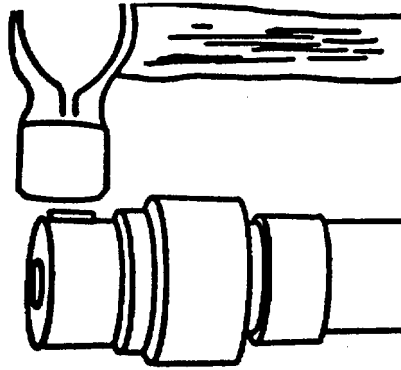

FIGURE 4-31. Installing Woodruff Key.
- b. Remove all burrs from camshaft (5). Smooth any rough surfaces caused by removing the gear. Replace camshaft if required.
- c. Install woodruff key (2) which comes out in process of removing gear (FIGURE 4-31).